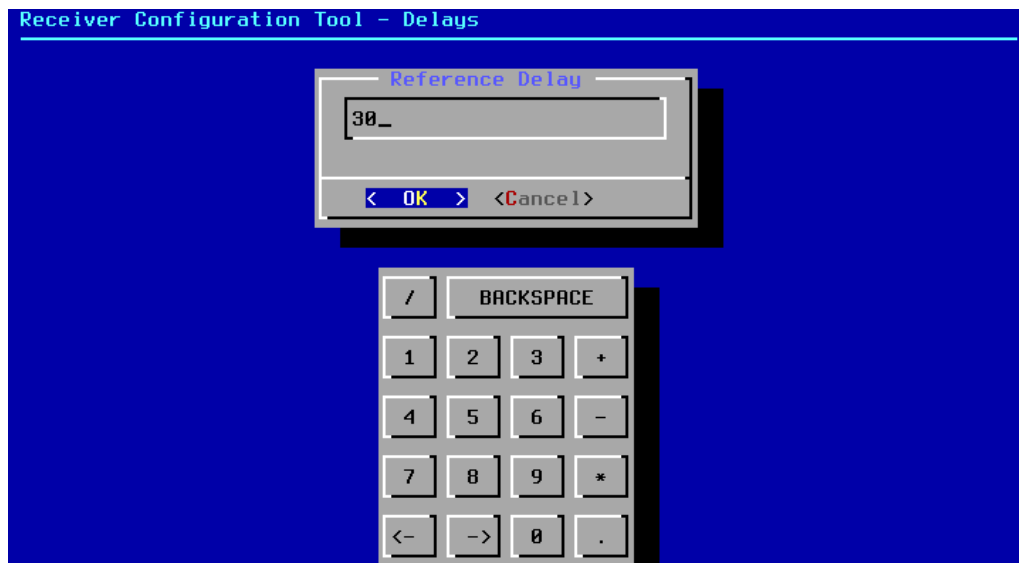

Figure 19: Delay value entering (reference delay)
5. enter the delay value (e.g. Reference delay - fig. 19)